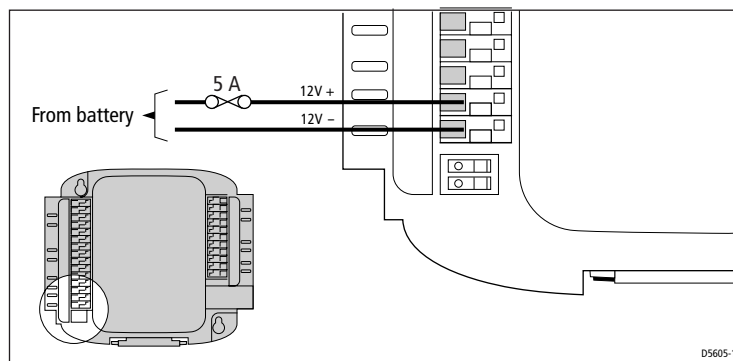

Figure 2-32: Power connections
If your system is not connected to a Raymarine autopilot and if no other power source is connected to SeaTalk, connect the 12 V supply for the ST290 system as follows (see *Figure 2-32*):
4. Ensuring that the power source is protected by a 5 A fuse or circuit breaker, connect the 12 V positive and negative wires to the DPU as shown in *Figure 2-32*.